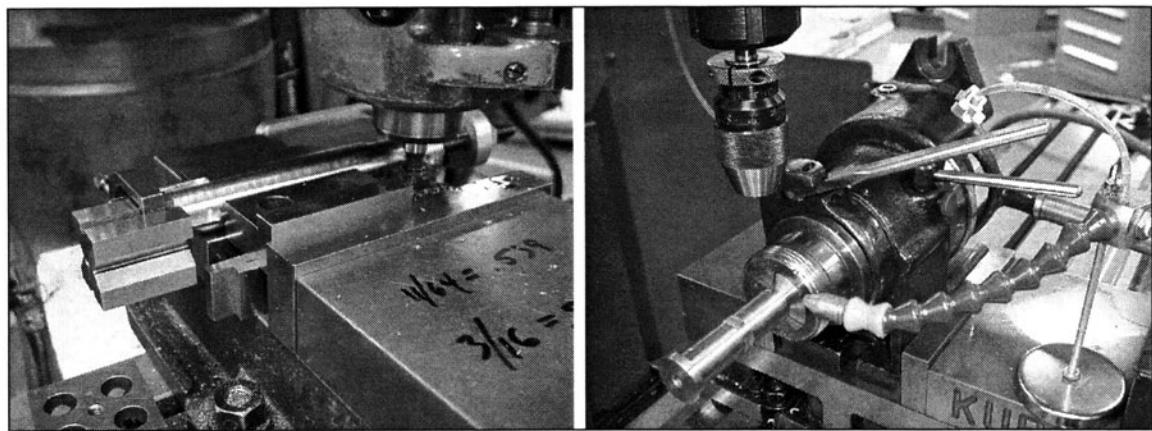

FIGURE 6-1 Indexing parts for machining takes a little creativity. These photos show a few methods for indexing parts conventionally.
1. Get creative when indexing parts. (See Fig. 6-1)